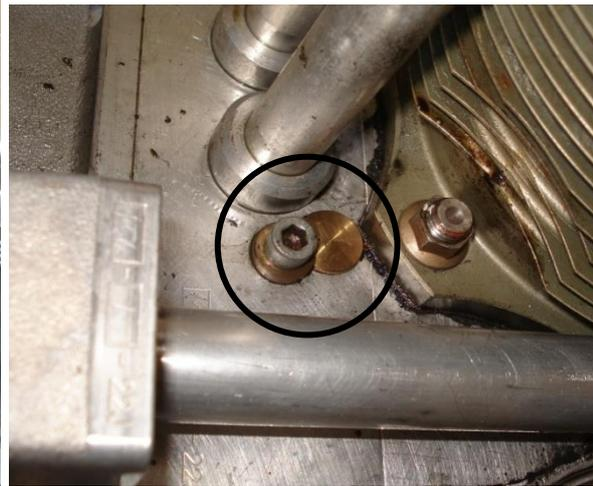

Figure 193 – Rocker Lube (Left) & Crankcase Oil Port Blanking Plug
7. Fit the pushrod tubes (2) to the crankcase.
8. If the engine uses an external oil feed pipe this must be fitted between the cylinders. It should be fitted but the clamps not tightened until all the heads are fitted. For later specification engines which use the pushrod tubes to feed oil to the rocker gear this step is omitted. Note that if an engine has been converted from the external oil feed to the new hollow pushrod oil feed it will be necessary to fit blanking plugs to the old oil feed holes in the sides of the crankcase as shown in Figure 193. Solid lifter engines must use the external oil feed tube system.